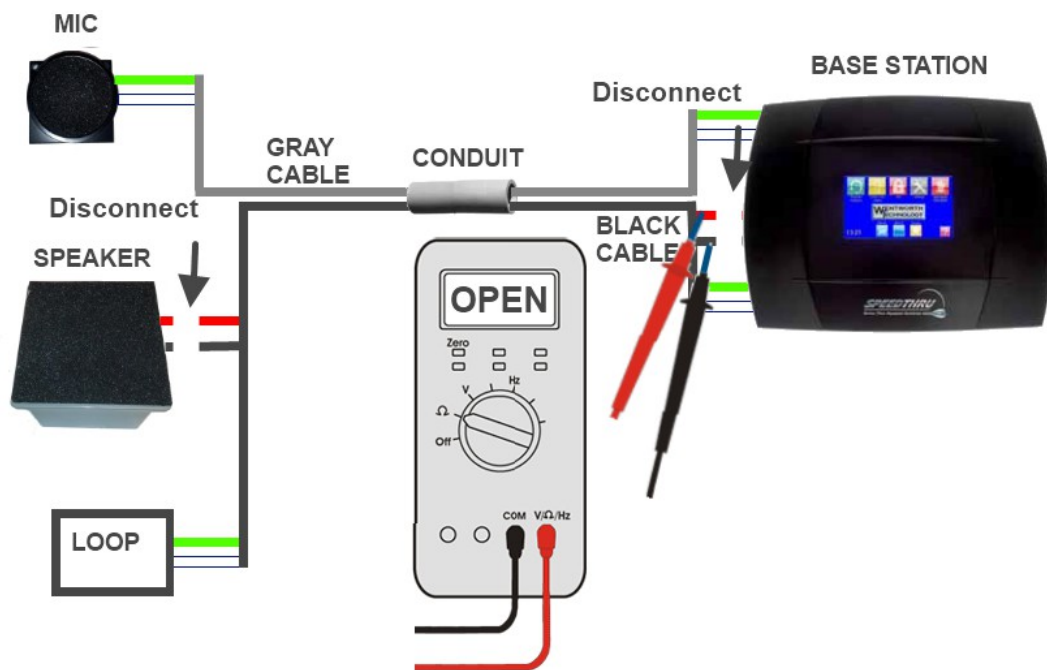

Figure 5: Testing wiring for a short
1. Disconnect the wires from the base station AND mic, speaker, or loop. Ohm across the cable. It should read as an open circuit (infinite or very high Ohms). If not it is shorted, find the short or replace the cable. Figure 5 shows how to test the speaker cable.
3. Disconnect the wires and shield from the base station AND mic, speaker, or loop. Ohm each wire to the shield as you did in Figure 5. It should measure as an open circuit (greater than 1 megaOhm). If not, the wire is shorted to shield somewhere, find/repair or replace the cable.